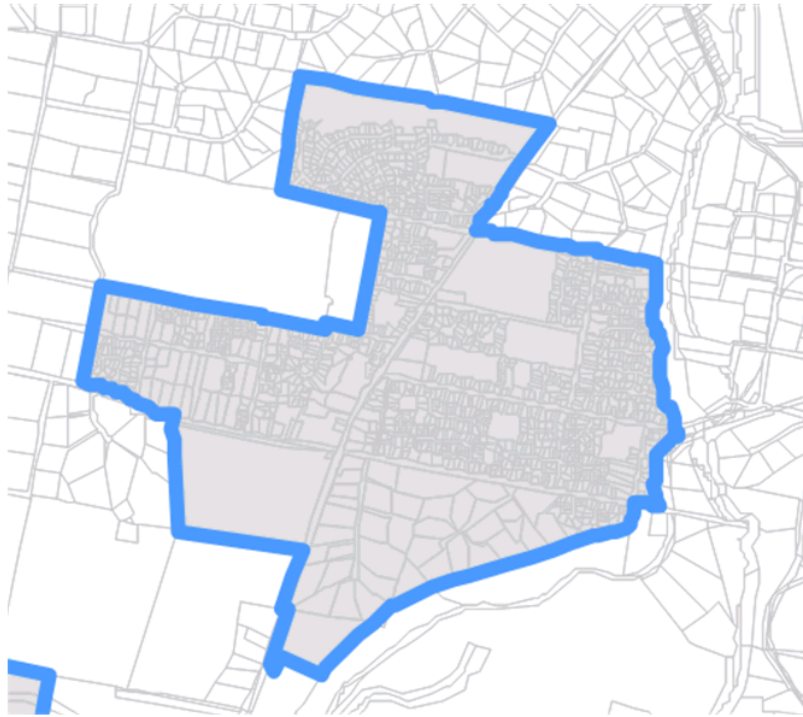

Figure 2: Existing UGB over Brighton
- 6.1. The existing UGB is shown on Map 10 of the STRLUS and the area over Brighton is reproduced in Figure 2.